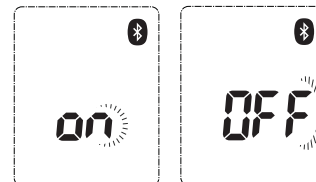

Figure 3
5. After the minute is set, press *M BUTTON* to enter into the Bluetooth control mode. Press and release *S BUTTON* to set the Bluetooth function on or off(See Figure3).After the Bluetooth function is set, press *M BUTTON* to exit system setting mode.